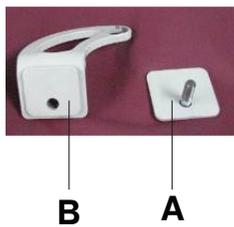
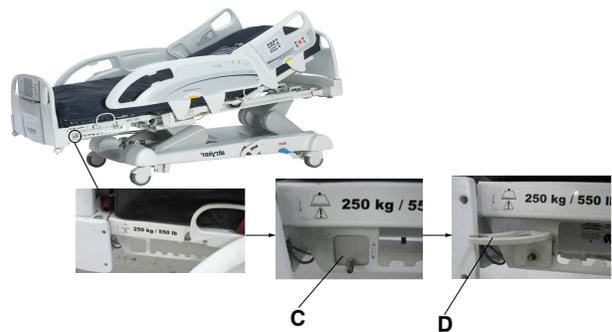

Figure 86: Bracket and bracket back
Figure 87: Installing the bracket back and bracket
1. Install the bracket back (A) and the bracket (B) (Figure 86 on page 97) onto the end of the foot end foley bag hook at the foot end of the product (C and D) (Figure 87 on page 97).